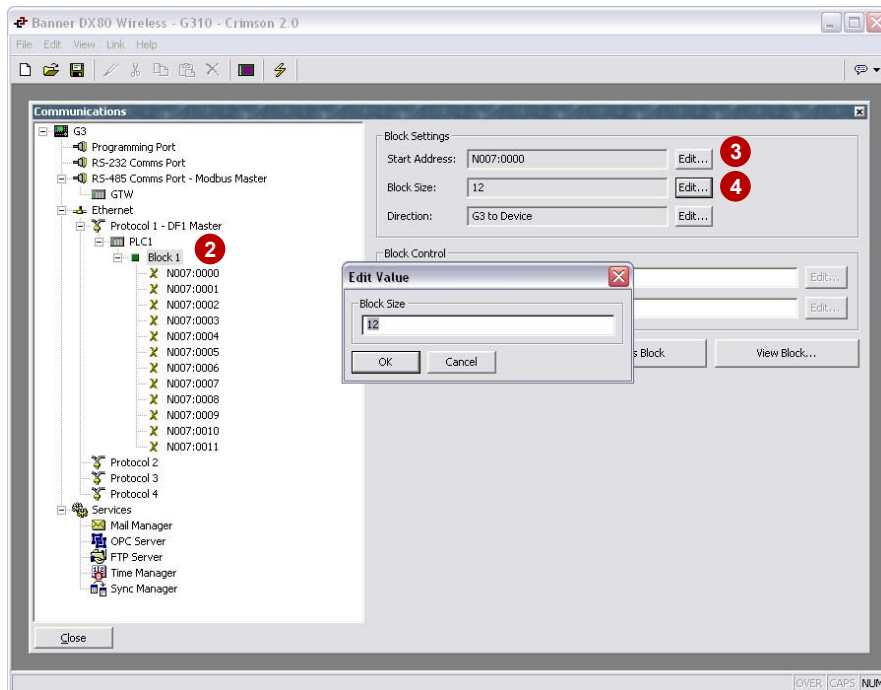

Figure 30
2. Select the block, (Figure 30)